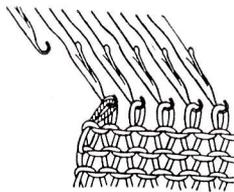

Fig. 57
- a. Use one needle transfer tool, transfer the end stitch to the 2nd needle. (See Fig. 57)